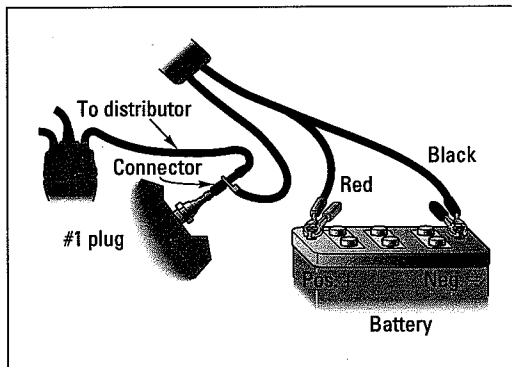

Figure 12-45:
Most lights have three clips on them. If you have no instructions, the ones in this book will work for most timing lights with three clips (see Figure 12-45).
4. Clamp the big red clip to the *positive* terminal of your car battery, as shown in Figure 12-45.
- You can remove the boot from the spark plug, put the clip on the terminal end of the plug that sticks out of the engine, and replace the boot so that it fits snugly and allows the current to pass through from the wire to the plug (refer to Figure 12-45).